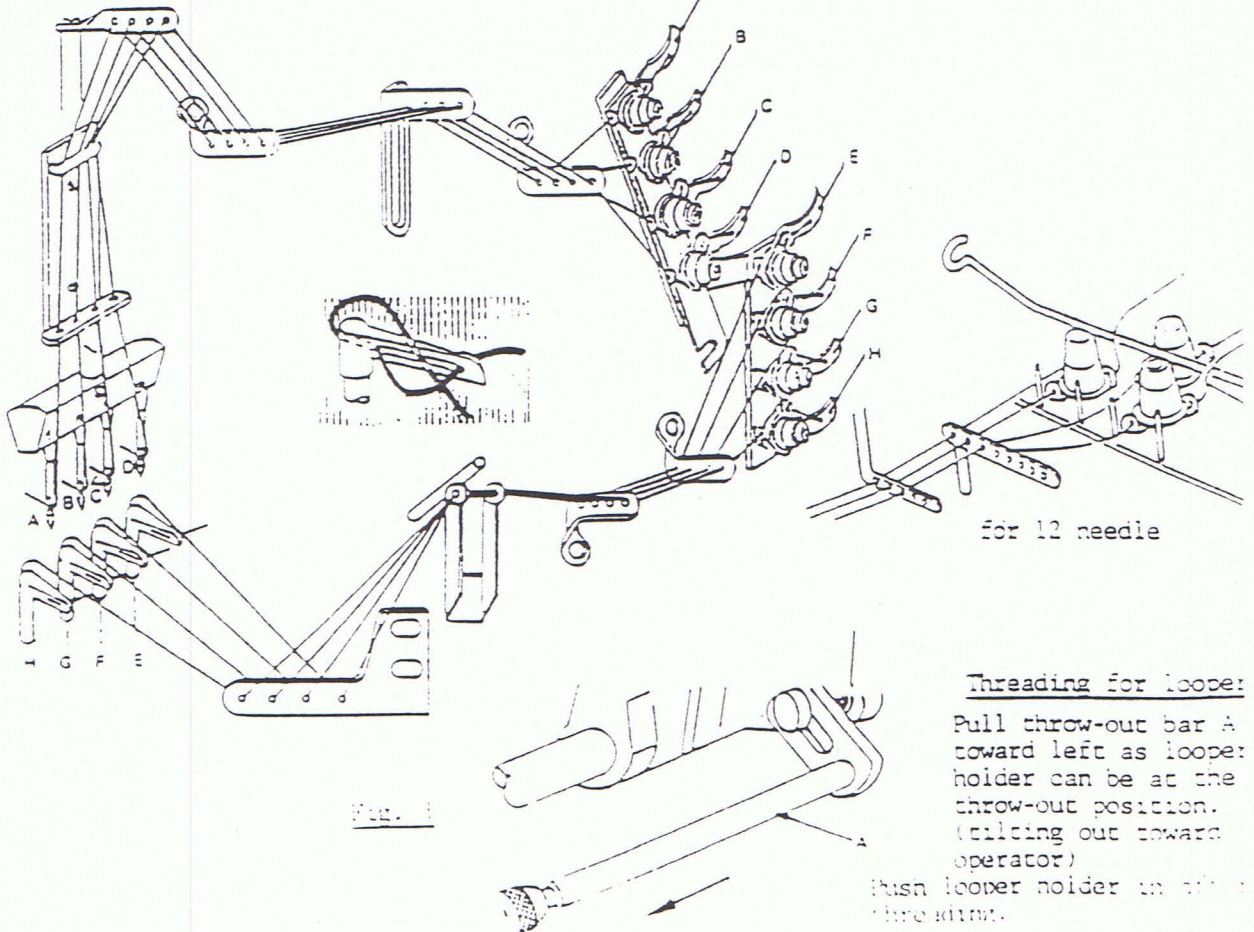

Fig. 4
- 5) Threading (Fig. 4)
Refer Fig.4 for correct threading